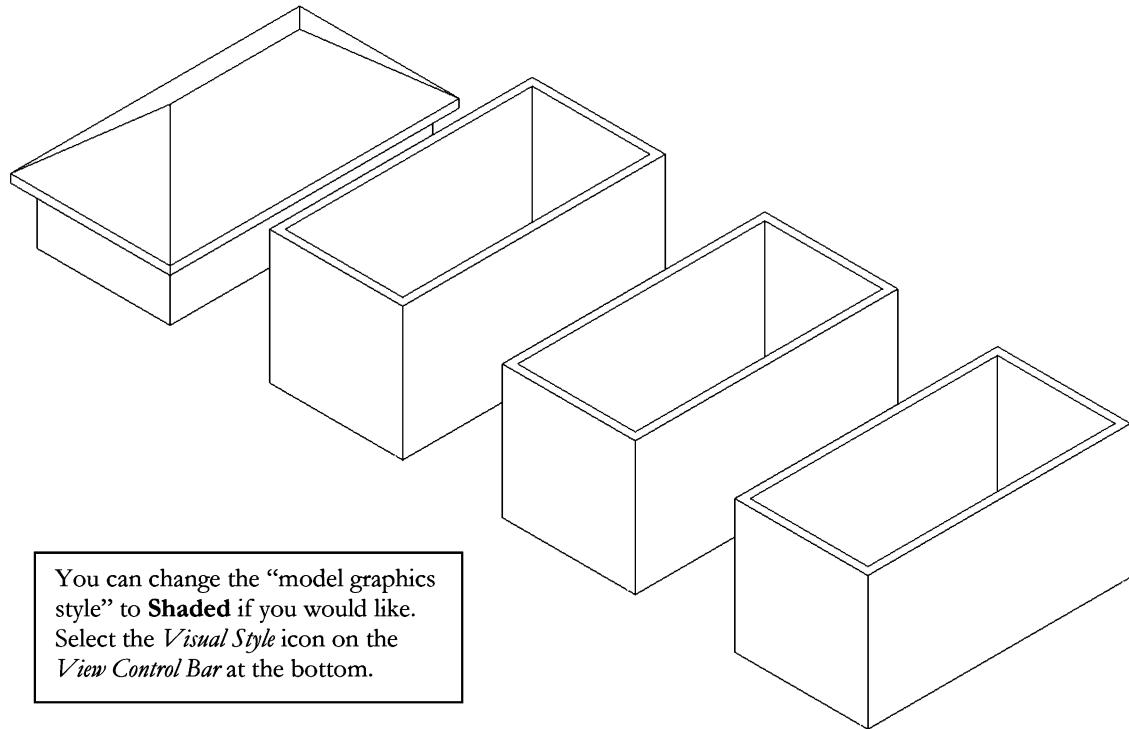

FIGURE 8-1.4 3D view – hip roof
15. Switch to the **3D** view using the icon on the *QAT* (Figure 8-1.4).